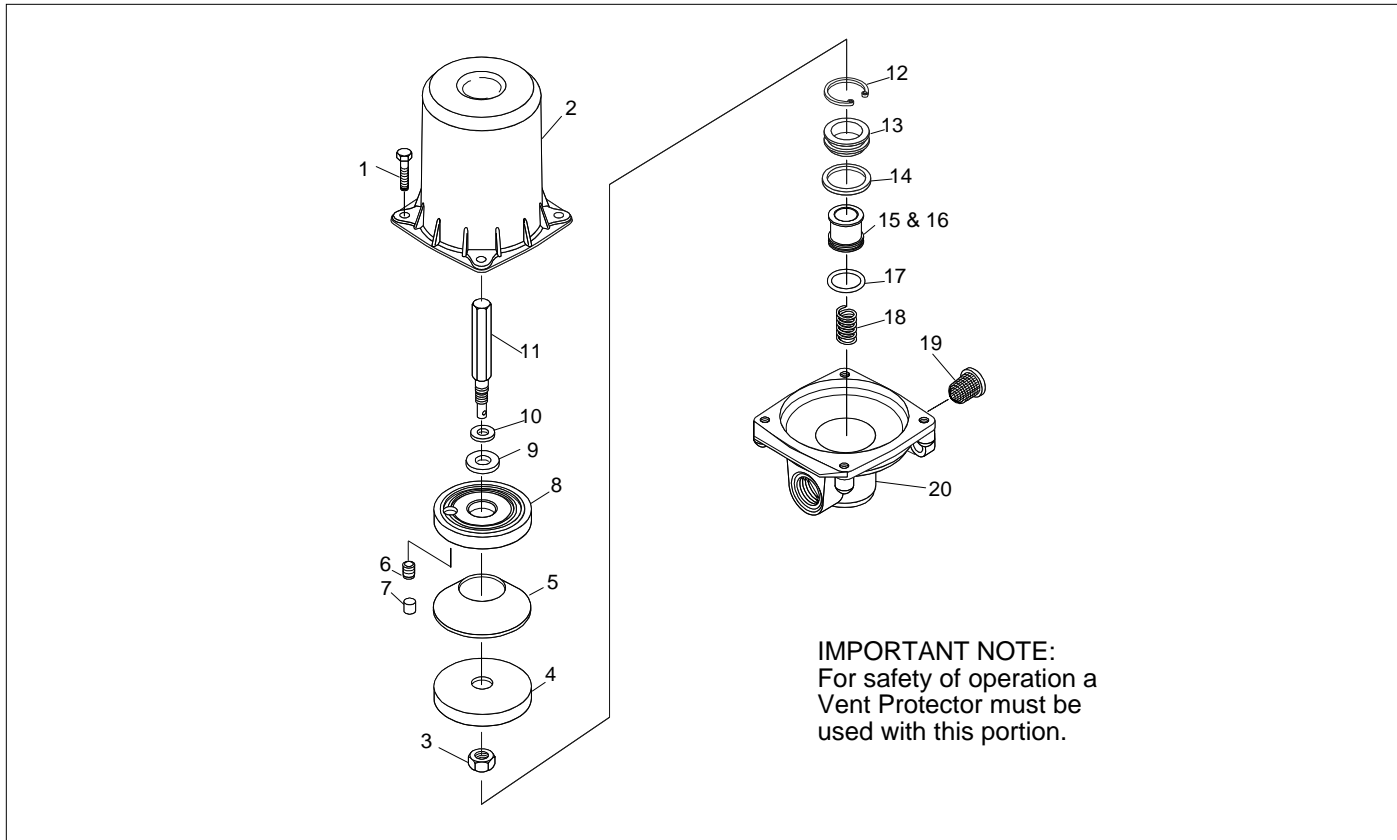

Figure 4 - #8 Vent Valve Portion - Exploded View
NOTE: Be sure that the strainer (reference number 19 in Figure 4) is properly positioned in the vent valve portion body (reference number 20 in Figure 4).
9.1.2 Referring to Figure 4, remove the four $\frac{3}{8}$ " x 1" hex head screws (1) that secure the diaphragm housing (2) to the body (20).
9.2.5 REMAINING PARTS (Figure 4)
⚠ 9.3 ASSEMBLY (Figure 4)